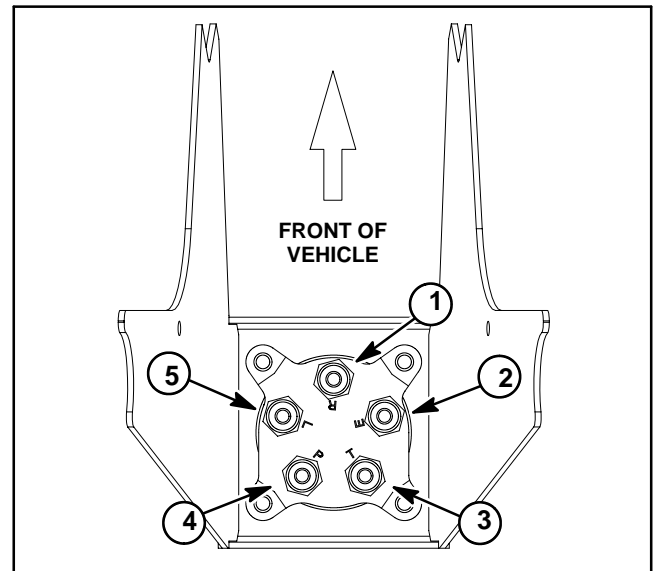

Figure 37
6. Remove four (4) cap screws that secure steering control valve to vehicle frame. Move steering valve (with hydraulic hoses attached) away from vehicle frame.
7. Label and disconnect hydraulic hoses from steering control valve (refer to Figures 37 and 38). Install caps or plugs in hoses and valve fittings to prevent contamination and leakage of hydraulic oil.
1. Replace O-rings on hydraulic fittings. Remove caps and plugs from hoses. Connect hydraulic hoses to correct steering control valve ports (refer to Figures 37 and 38) (see Hydraulic Hose and Tube Installation in the General Information section of this chapter). Make sure that hoses are not twisted while tightening.
2. Position steering control valve to vehicle frame with port R toward front of vehicle (Fig. 37). Secure steering control valve to vehicle with four (4) cap screws.